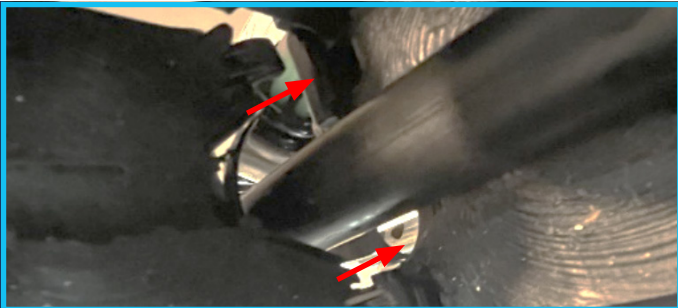

Figure 8.3
3. Engage the sealing wedge into the slots on the Apex base [figure 8.3].